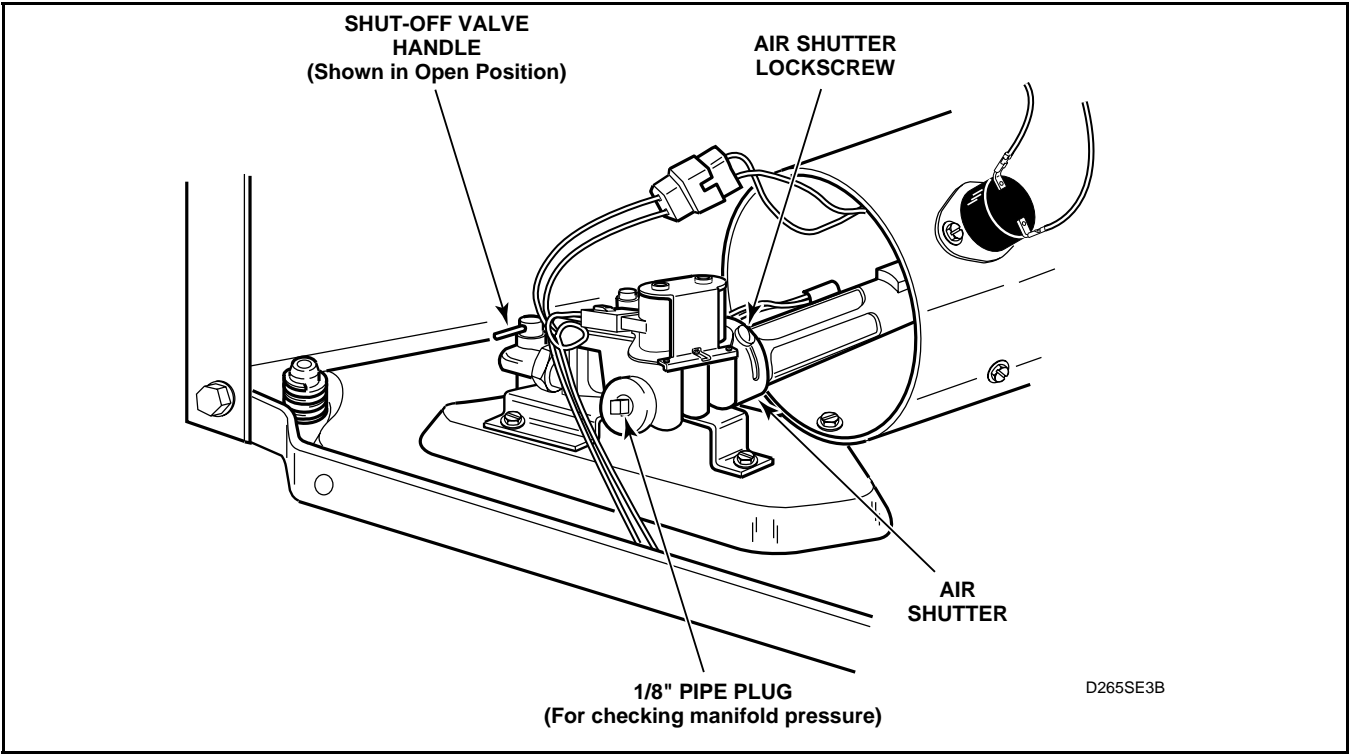

Figure 59
- e. Allow the dryer to operate for approximately five minutes, then loosen the air shutter lock screw. See *Figures 59* or *60*.
- g. After proper flame is obtained, tighten air shutter lock screw firmly. See *Figures 59* or *60*.